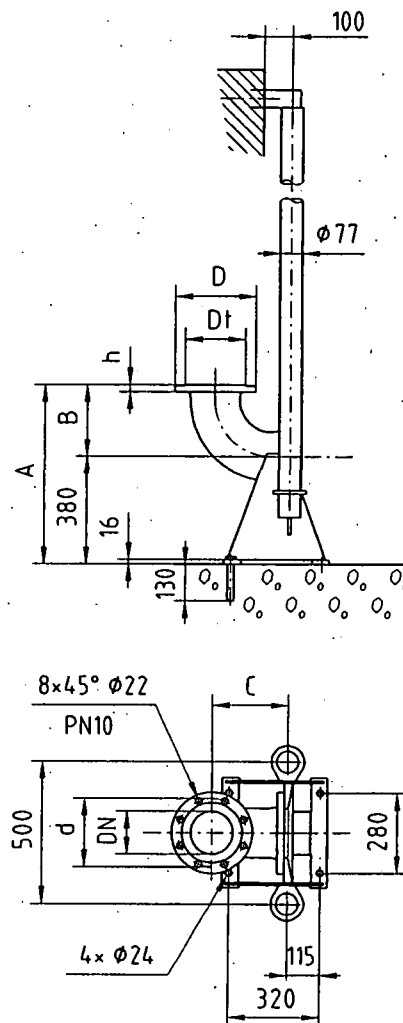

Figure 5.7 DN 150 and DN 150/200 guide rail system installation dimensions. The variable dimensions are given in table 5.2.
- Version 7** Vertical column installation. Permanent submersible installation in steel tube or concrete shaft. The circular pump casing fits onto a seat ring installed at the shaft or tube bottom opening and the pump stays in place by its own weight and from the reaction forces from the pumping action. The pump casing is special for the version and is open with trailing vanes. The version finds applications in low head installations for large pumped volumes. Please refer to figure 5.7 below.